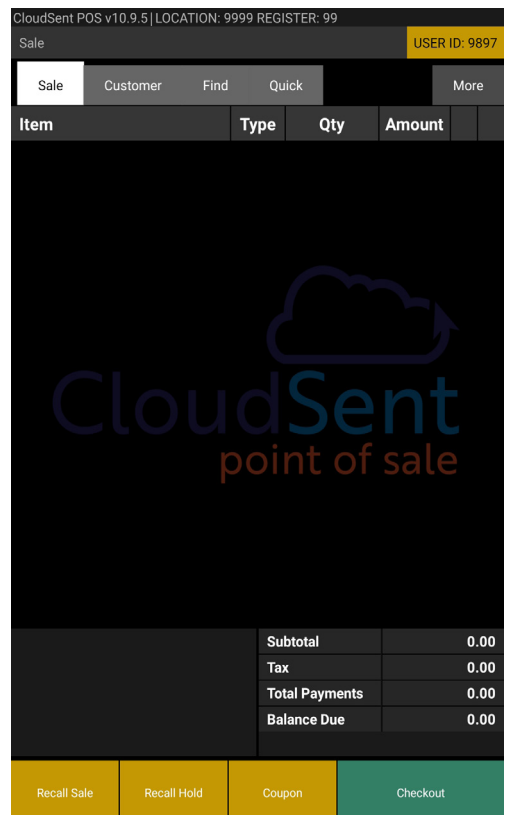

Figure 29
13. Once CloudSent is up and running, you should see the sale screen (Figure 29).